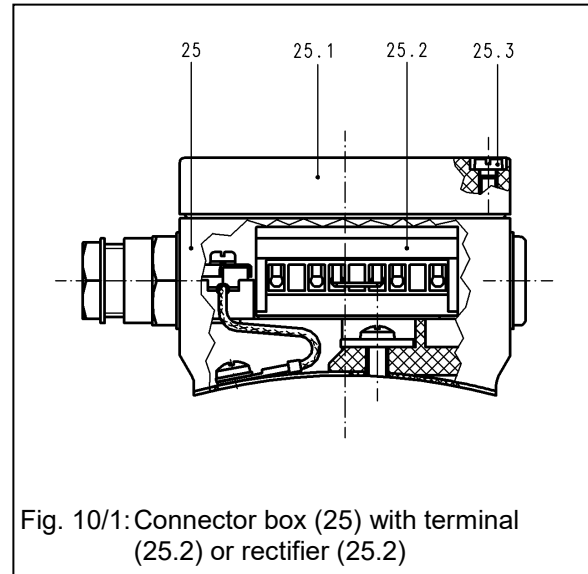

Fig. 10/1: Connector box (25) with terminal (25.2) or rectifier (25.2)
The spring-applied single-disc brake must be supplied with DC voltage. Connection to an AC power source is via a half-wave, bridge or overexcitation rectifier (25.2). Brakes with connector box (25) and built-in rectifier (25.2) can be connected directly to the AC mains. The contact assignment is shown in Fig. 10/1. Brakes equipped with connector box (25) and connecting terminal (25.2) resp. connecting cable must be connected directly to DC voltage. The customer-specific connecting cable must be connected to the terminals (25.2) or built-in rectifier (25.2) by means of a cable gland (14) (PG 11, clamping range 7.5 to 10 mm). Remove the cover (25.1) of the connector box (25) so that the individual strands of the connecting cable can be connected to the terminals (25.2) or to the contacts of the built-in rectifier (25.2).
When using brakes with built-in rectifier (25.2), the supply voltage is rectified by means of a half-wave rectifier (25.2). The built-in rectifier (25.2) can be wired in such a way that AC side switching (normal coupling time t_1) or DC side switching (short coupling time t_1) is possible (see Fig. 10/1). Various Kendrion rectifiers are available (see Table 8/1, list not exhaustive) for direct brake connection to an AC power source via the built-in connecting terminal (25.2). Depending on the brake size and torque, voltage ripple due to intermittent power supply may cause brake humming or incorrect brake operation. Perfect brake operation must be ensured by the user or system manufacturer by providing suitable electrical controls.